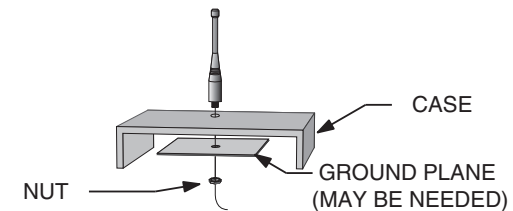

Figure 27: Remote Ground Plane
6. In some applications, it is advantageous to place the module and antenna away from the main equipment (Figure 27). This can avoid interference problems and allows the antenna to be oriented for optimum performance. Always use  $50\Omega$  coax, like RG-174, for the remote feed.